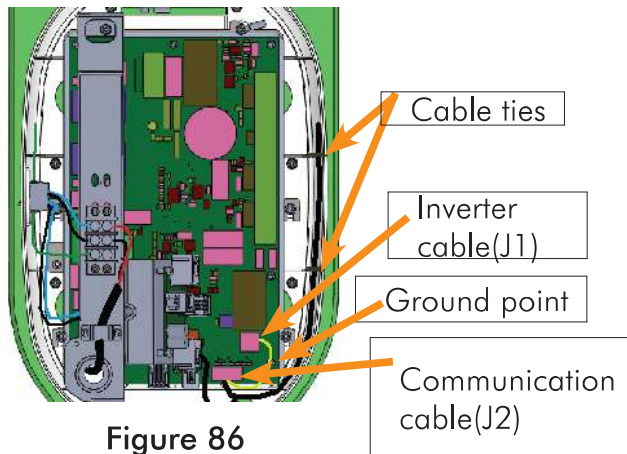

Figure 86
- Cut the 2 cable ties inside the base unit located on the right side of the power board as shown in Figure 86 .
- Disconnect the Inverter power cable from J1 connector using screw driver and communication cable from J2 connector on the power board as shown in Figure 86 .
- Remove the GND wires of both the cables by removing M3x6 Hex. socket head cap screw using 2.5 mm Allen key as shown in Figure 86 .
- Connect the Inverter power cable to J1 connector(Non-polarised) using screw driver and connect communication cable connector to J2 connector on the power board by pressing the lock as shown in Figure 86 .
- Connect the GND wires of both the cables by fixing with M3x6 Hex. socket head cap screws using 2.5mm allen key as shown in Figure 86 .
- Use new cable ties to fix the cables on the existing cable mounts & cut the extra length of cable ties using a cable tie cutter as shown in Figure 86 .